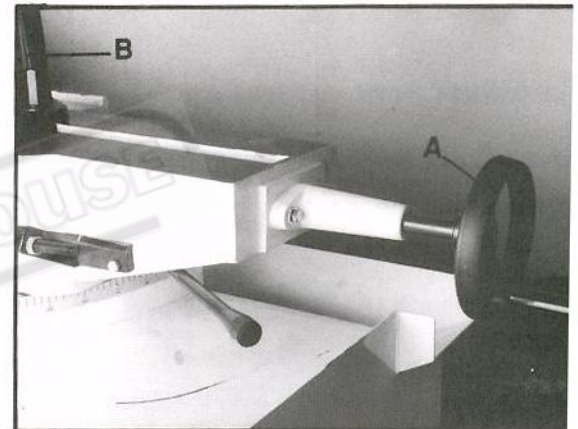

Fig. 15
1. Turn vise handwheel (A, Fig. 15 ) 1/2 turn counter-clockwise.
2. Move vise (B, Fig. 15 ) to desired location by sliding along bed.